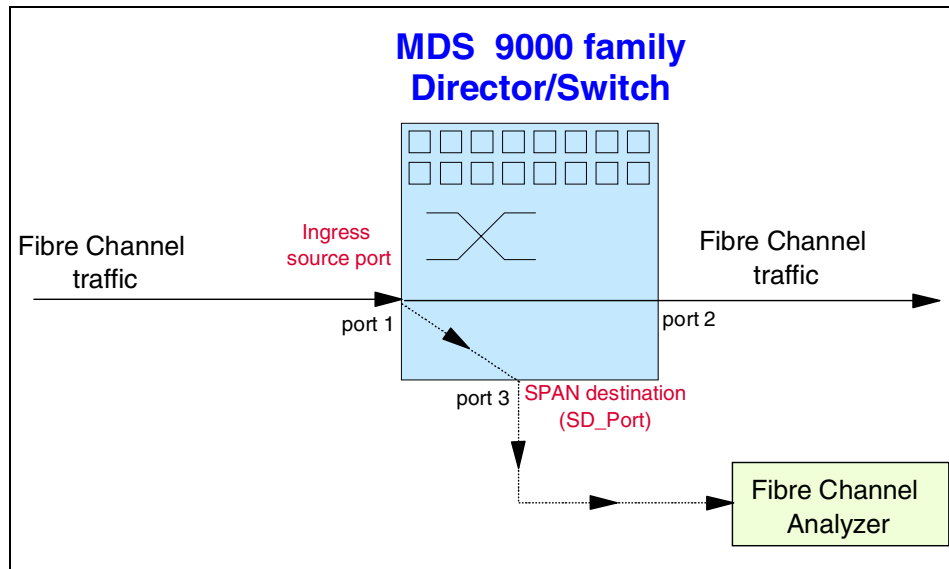

Figure 7-29 SD\_Port for incoming traffic (ingress direction)
- ▶ **Ingress source (rx):** Traffic entering the switch fabric through this source is spanned or copied to the SD\_Port, as shown in Figure 7-29.